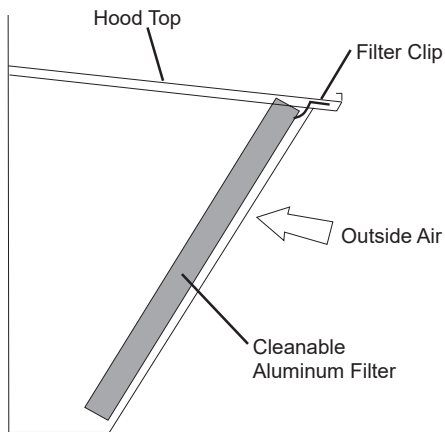

Fig. 4 - Filter Installation
14. Open the filter clips on the inside of the hood top. Insert the aluminum filter into the hood and close the clips to hold in place. See Fig. 4.
16. Remove the aluminum filter (Fig. 4) to adjust the settings on the economizer controller. Review the settings in the Operation section: